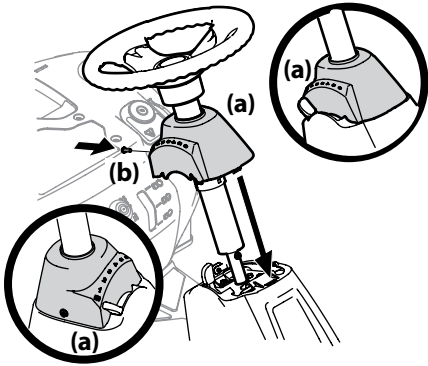

Figure 2-4
- Slide the pedestal cap (a) down onto the riding mower and slightly rotate to the right to clip into place. Secure the pedestal cap (a) with the screw (b) previously removed. See Figure 2-4.